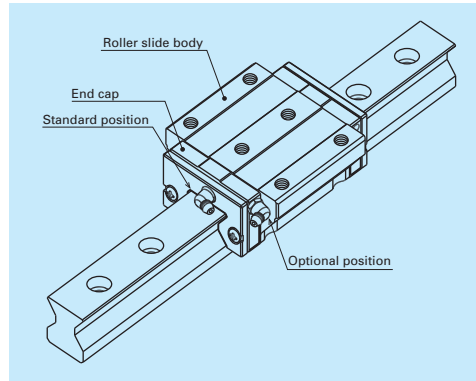

Fig. 12 Mounting position of lubrication accessories
(2) Mounting position of lubrication accessories
- The standard position of grease fittings and tube fittings is the end face of roller slide. We can mount them on a side of end cap for an option. (Fig. 12) Please consult NSK for installation of grease or tube fittings to the roller slide body or the side of end cap.